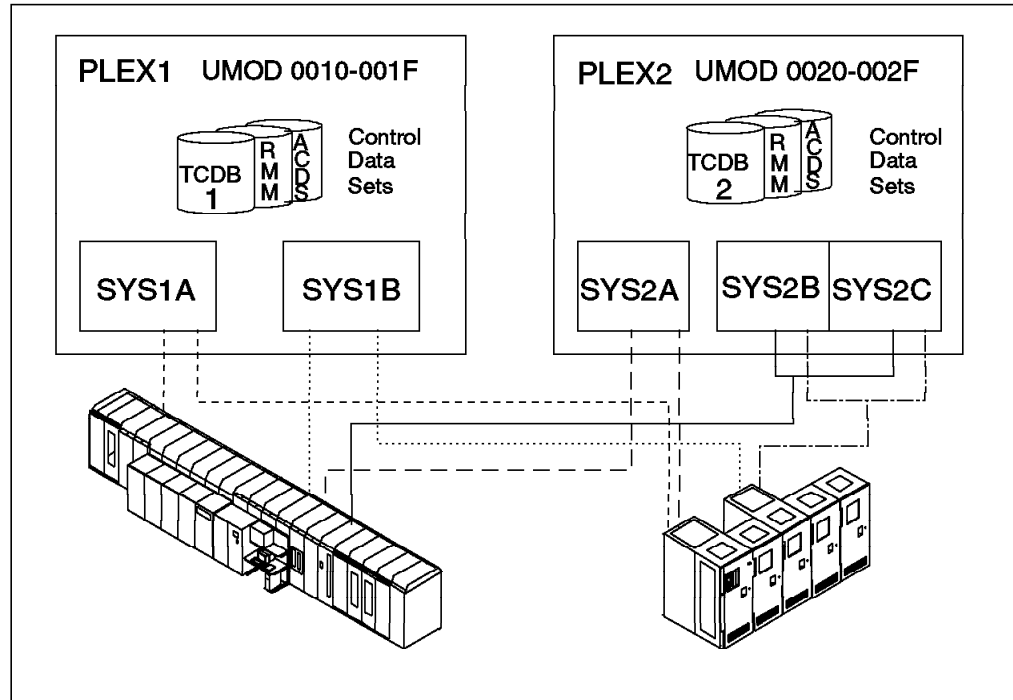

Figure 38. Hard Partitioning Using UMODs
Assume that you have two SMSplexes, PLEX1 and PLEX2. PLEX1 includes systems SYS1A and SYS1B; PLEX2 includes systems SYS2A, SYS2B, and SYS2C. All five systems are attached to the same IBM Automated Tape Library (see Figure 38 on page 101).
- Without the UMOD applied, a system uses the default categories of X'0001' for MEDIA1 scratch tapes and X'0002' for MEDIA2 scratch tapes. If SYS1A inadvertently removes the UMOD, all scratch allocations of SYS1A would fail, because all scratch volumes of MEDIA1 belong to category X'0011' or category X'0021', and all scratch volumes of MEDIA2 belong to category X'0012' or category X'0022'. There are no volumes in categories X'0001' or X'0002' available in the configuration shown in Figure 38 on page 101.